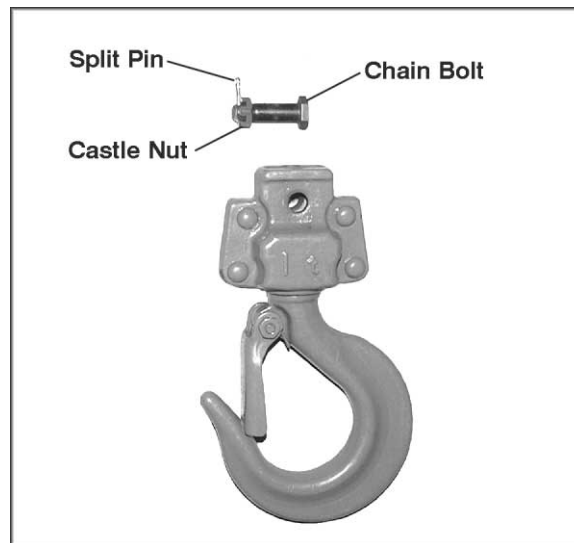

Figure 12
1. Remove the split pin from the lower hook. See Figure 12.